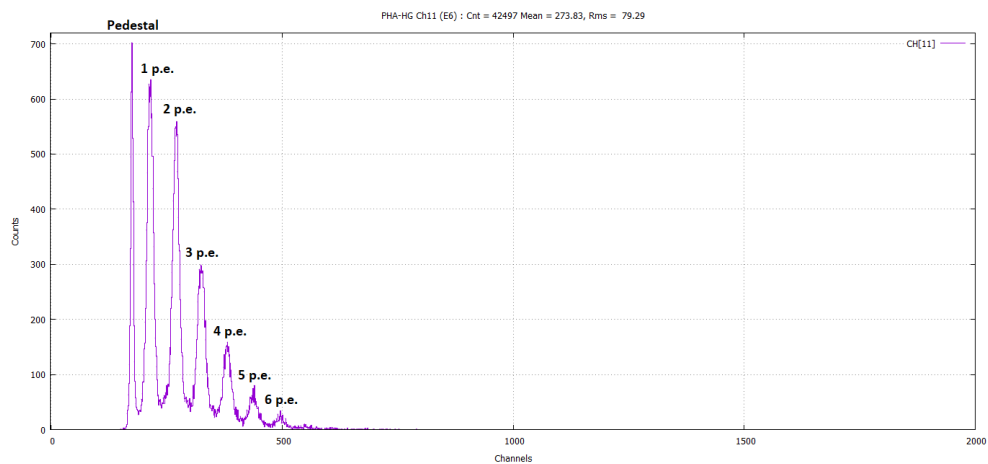

Fig. 10.47: Pulse height amplitude spectrum obtained with the pedestal and the first 6 photopeaks.
2. Increase the light intensity until other peaks at higher energies will start to appear in the spectrum (see Fig. 10.47). The pedestal and the 1st photopeak are still visible in the same position of the dynamic range.